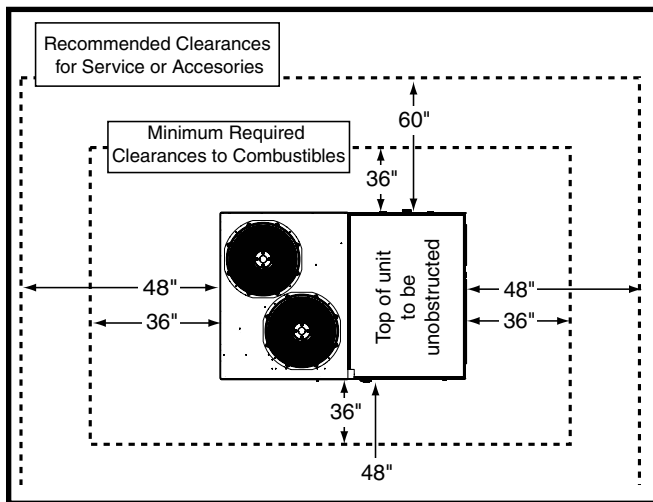

Figure 1. Unit Clearance Requirements
- Sufficient clearance for unobstructed airflow through the louvered control access panel and outdoor coil must be maintained in order to achieve rated performance. See Figure 1 \(page 5\) for minimum clearance requirements.
R7TQ units are certified as combination heating and cooling equipment for outdoor installation only. Figure 1 \(page 5\) displays the minimum clearances to combustible materials for both Downflow and Horizontal discharge.
- Clearances must be in accordance with those shown in Figure 1 \(page 5\).